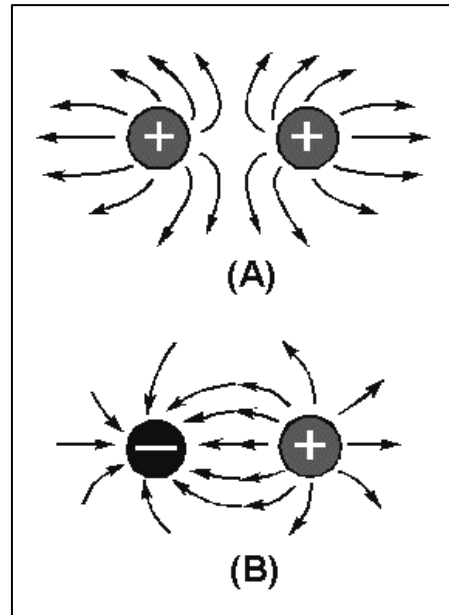

Figure 8: Electrostatic lines of force.
The field about a charged body is generally represented by lines that are referred to as **electrostatic lines of force**. These lines are imaginary and are used merely to represent the direction and strength of the field. To avoid confusion, the lines of force exerted by a positive charge are always shown leaving the charge, and for a negative charge they are shown entering. Figure 8 illustrates the use of lines to represent the field about charged bodies.
Figure 8(A) represents the repulsion of like-charged bodies and their associated fields. Part (B) represents the attraction of unlike-charged bodies and their associated fields.